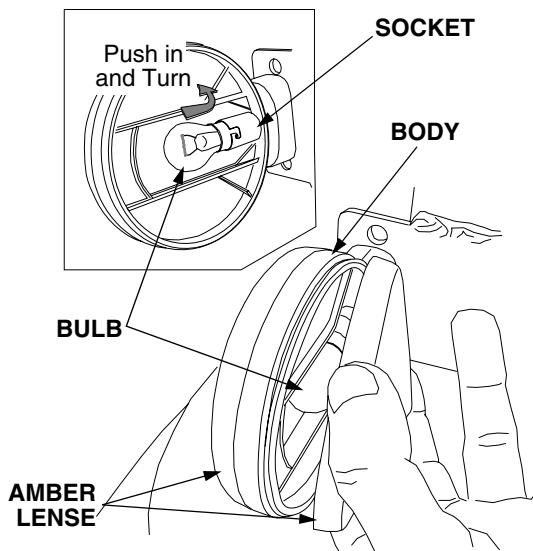

**Figure 36**
- Pull the wire harness plug from the bulb/socket assembly to unplug the wire harness. Refer to Figure 36.
- Turn the bulb/socket assembly approximately a quarter turn counterclockwise to align its tabs with the notches of the reflector, then remove from the reflector. See Figure 36.